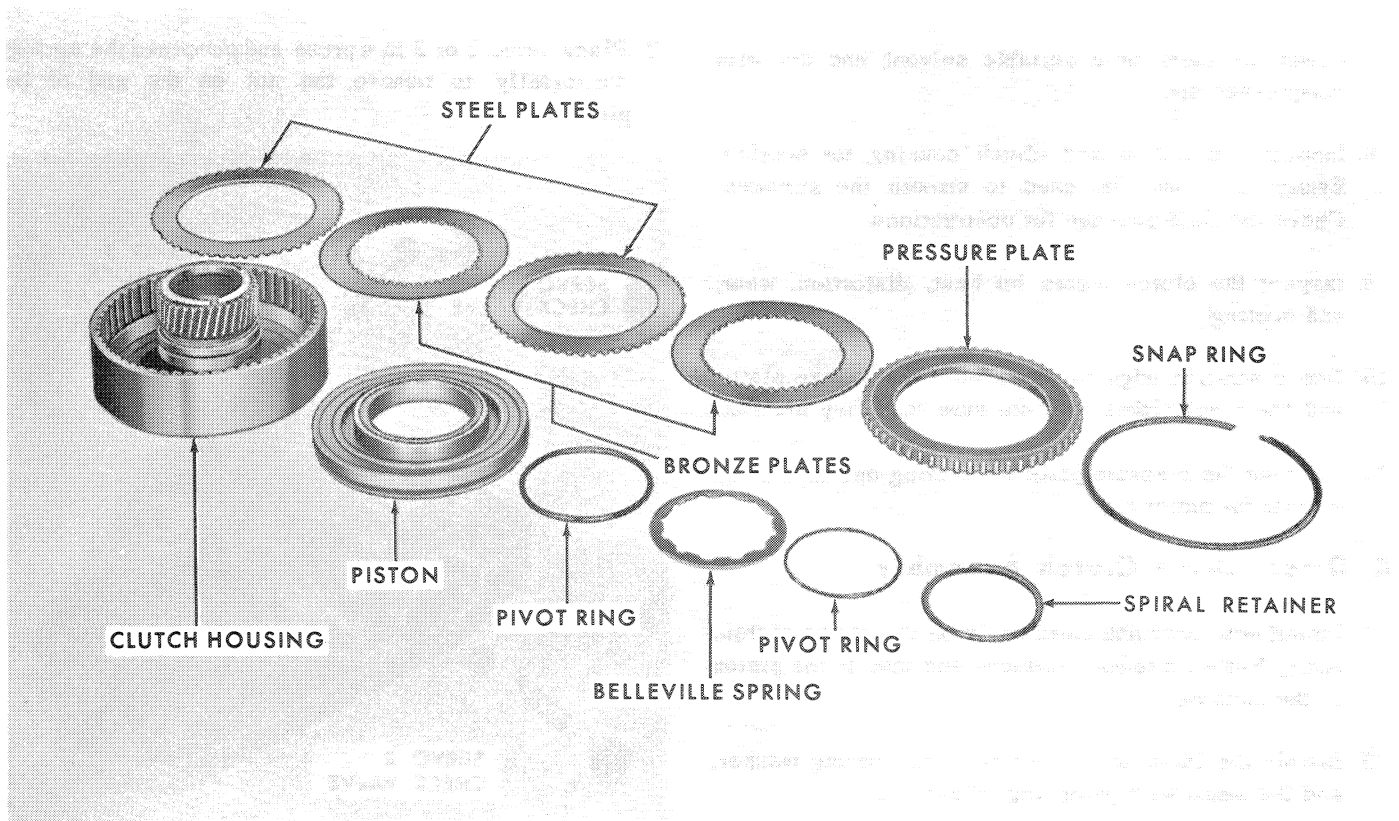

Figure 91
5. Remove the small wire pivot ring, the spring washer, and the large wire pivot ring, Figure 91.
2. Install the large wire pivot ring, the spring washer, and the small wire pivot ring, Figure 91.